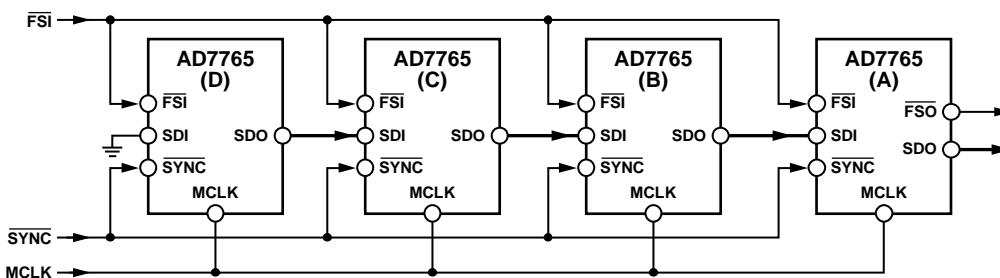

Figure 40. Daisy Chaining Four Devices in Decimate 128 \times Mode Using a 40 MHz MCLK Signal
The block diagram in Figure 40 shows how to connect devices to achieve daisy-chain functionality. Figure 40 shows four AD7765 devices daisy-chained together with a common MCLK signal applied. This configuration works in decimate 128 \times or decimate 256 \times mode only.
Referring to Figure 40, note that the SDO line of AD7765 (A) provides the output data from the chain of AD7765 converters. Also, note that for the last device in the chain, AD7765 (D), the SDI pin is connected to ground. All of the devices in the chain must use common MCLK and SYNC signals.